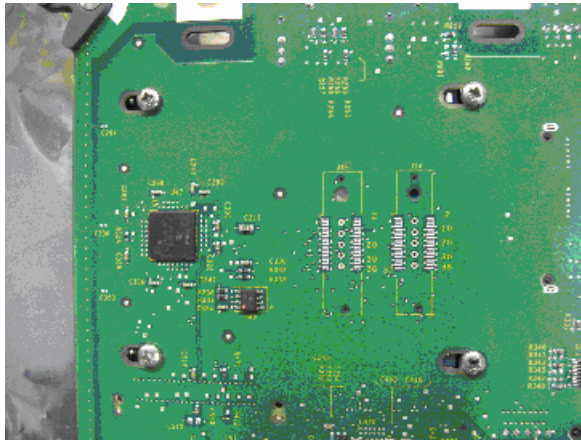

Figure 173: CP DC card hard drive screws
2. Remove the four Phillips screws on the bottom of the CP DC card to unsecure the hard drive, see Figure 173: CP DC card hard drive screws on page 609.